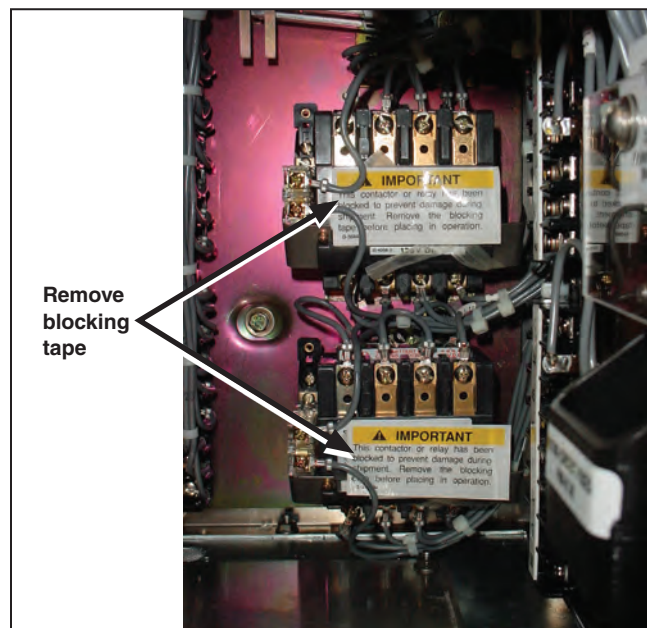

Figure 44. Remove the blocking from the motor contactors.
**STEP 2.** Remove the labels and blocking tape from the motor contactors. See Figure 44.